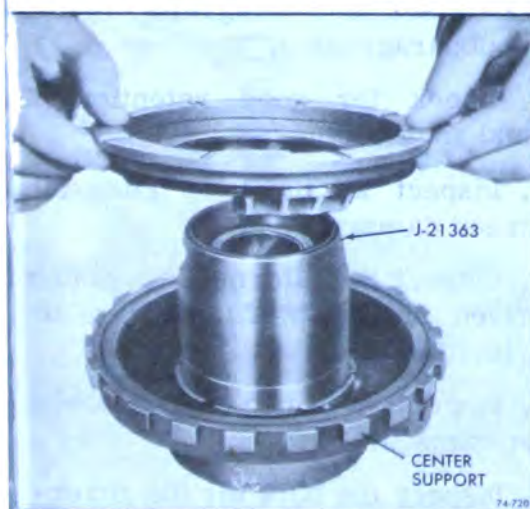

Figure 74-720
3. Install inner seal protector, Tool J-21363, on the center support hub, install the piston. See Figure 74-720.
4. Install three (3) release springs into the piston, space